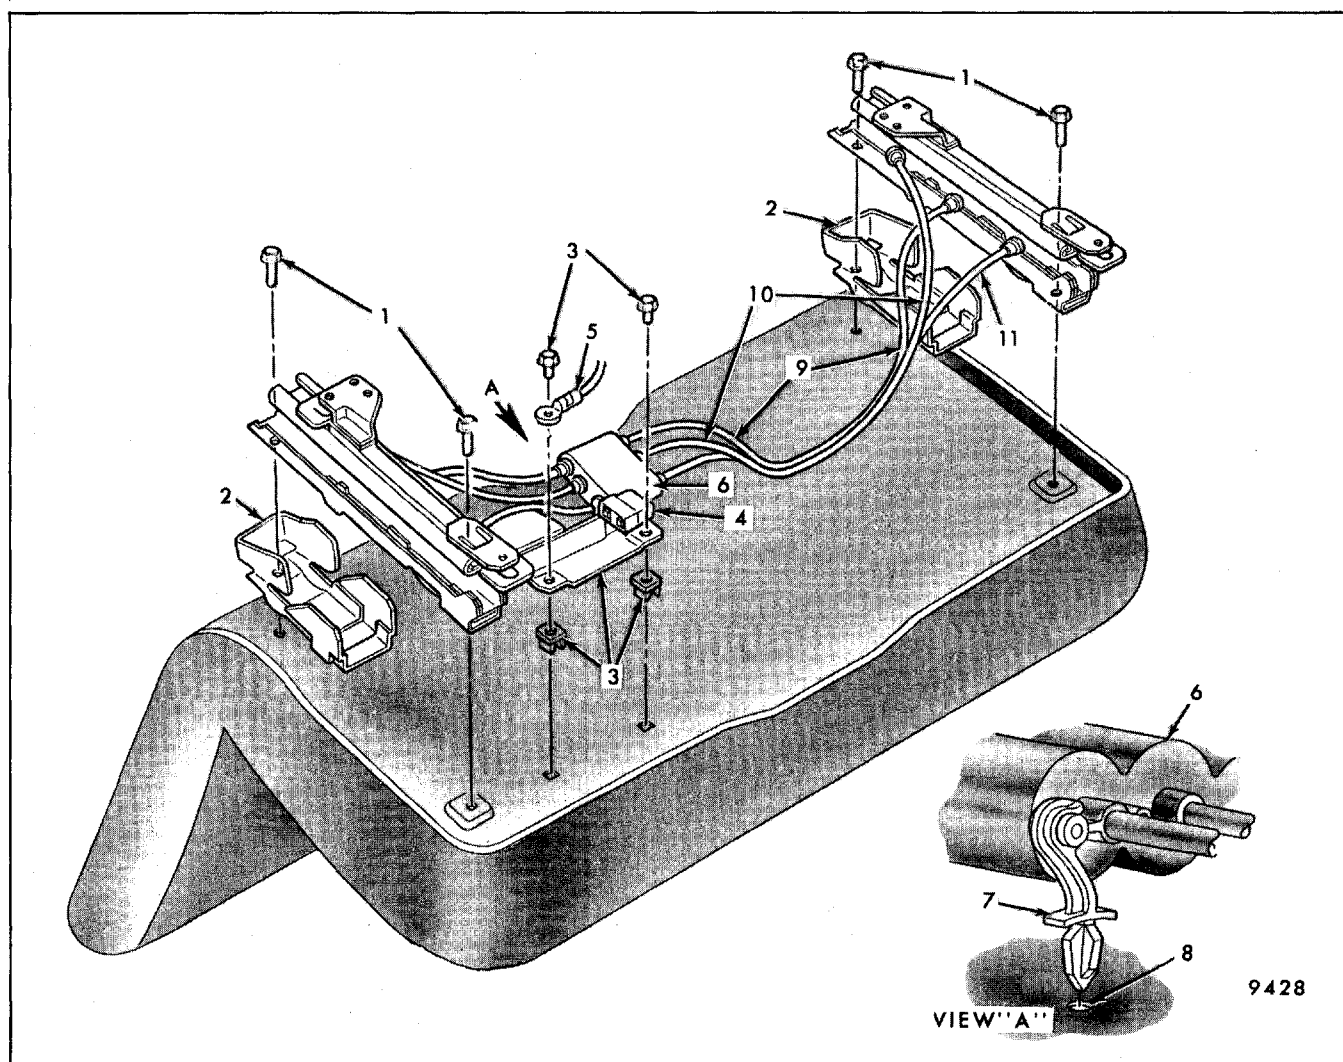

Fig. 9-49 - A, B and C Style Power Six-Way Seat Adjusters - Full Width Seat
- Figure 9-49 - A, B and C Style Power Six-Way Seat Adjusters - Full Width Seat